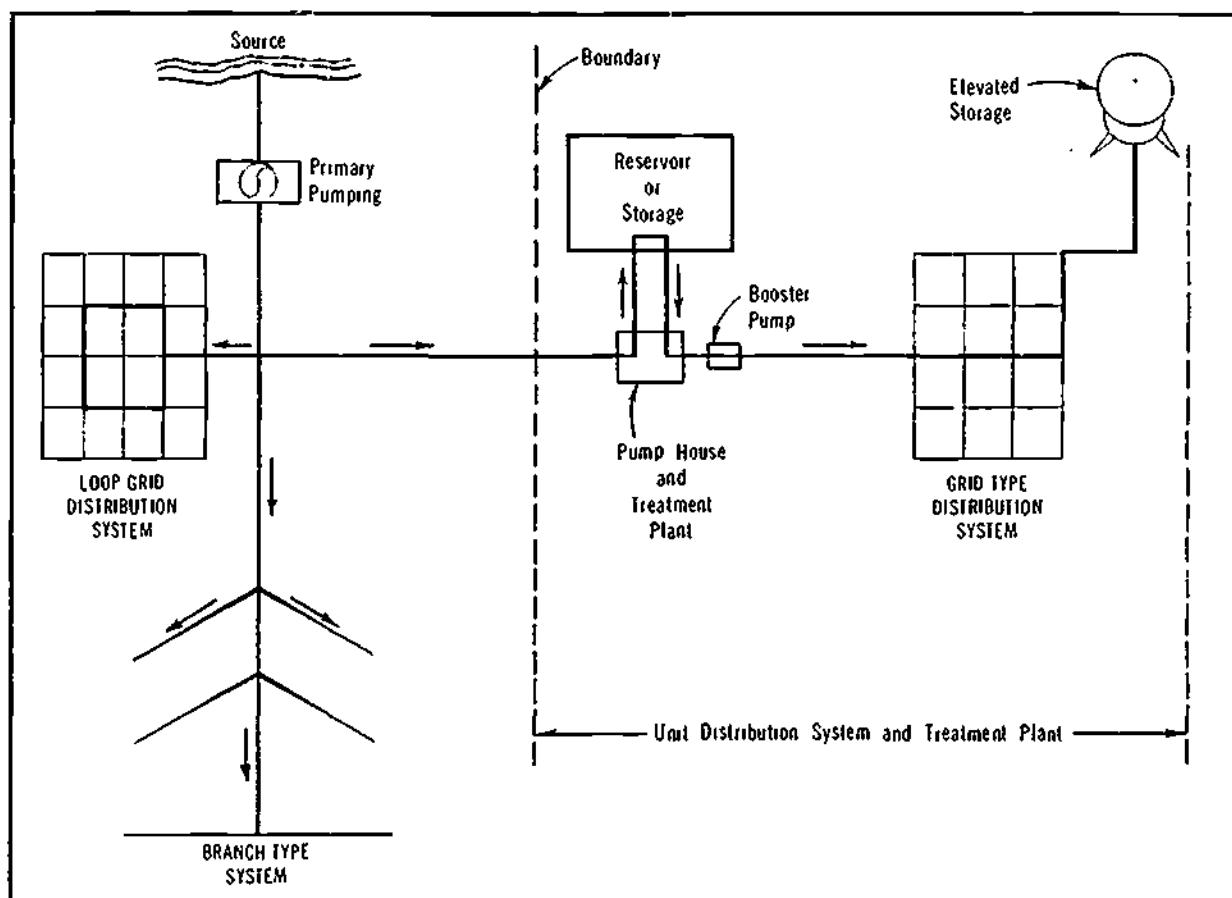

Figure 25-1. Schematic Diagram of Water-Distribution Supply Systems
2. The type of distribution system depends on the layout of the streets, the location of the pump house or supply works, and the storage facilities. Most distribution systems are of the grid type or looped-grid type (see Figure 25-1) although some of the older systems employ loops and feeders for areas as needed.
3. The branch-type system also shown in Figure 25-1 is not desirable nor recommended, for the following reasons:
5. The grid system is strengthened by the installation of a loop, or belt, feeder system as shown on the left-hand side of Figure 25-1.
6. A loop system approximately doubles the capacity of the grid when compared to the central feeder type on the right of Figure 25-1.
8. A community water-distribution system may comprise one or more feeder lines and grids, and one or more storage areas. (See Figure 25-1.)